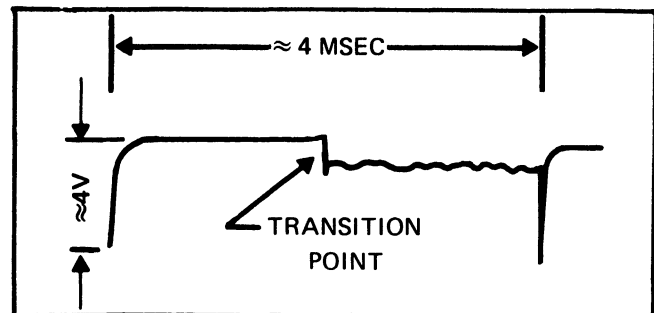

Figure 4-5. CHOPPER WAVEFORM
- Alternately adjust R43 counter-clockwise and R34 as necessary to obtain maximum squareness of the chopper waveform without a spike at the transition point. When correctly adjusted, waveform should appear as shown in Figure 4-5.